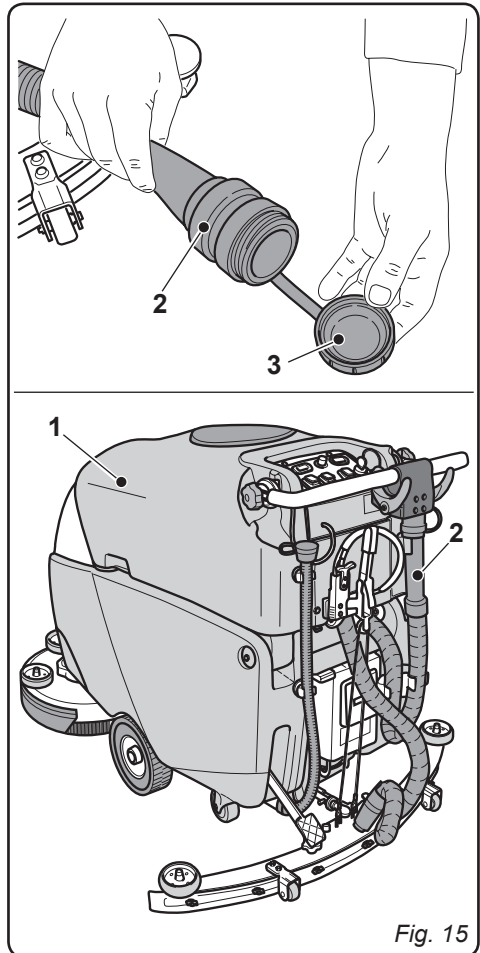

Fig. 15
9.1 DRAINING THE RECOVERY WATER (Fig. 15)